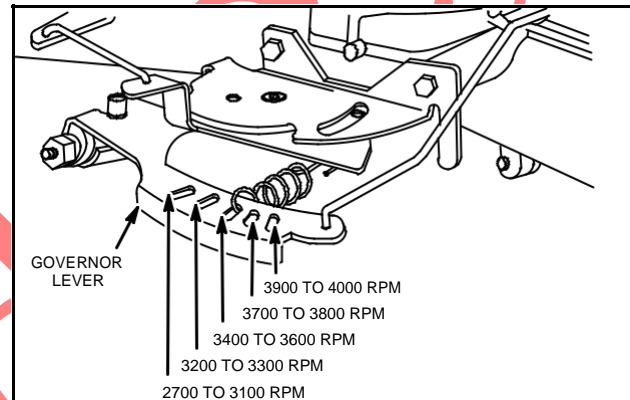

Fig. 38 – Governor Spring Position
5. Check governor spring location for proper hole location by RPM, Fig. 38.